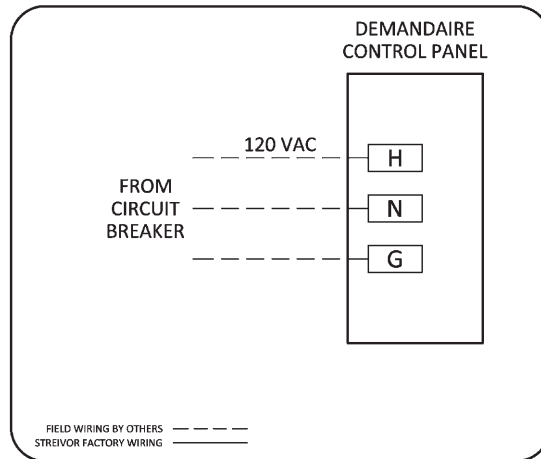

FIGURE 1: Control Circuit Input Power
- Connect 120 VAC single phase power to the terminal blocks in the control panel labeled *H*, *N*, and *Ground* (Figure 1).